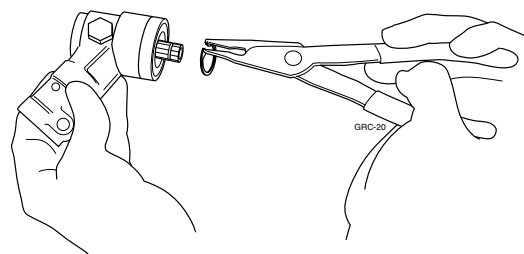

Figure 11.3 Removing the snap ring from the output side of the gearcase.
**STEP 3.** Use snap ring pliers such as Snap-On® PR-23A or equivalent to remove the snap ring from the output (cutting attachment) end of the gearcase (Figure 11.3).